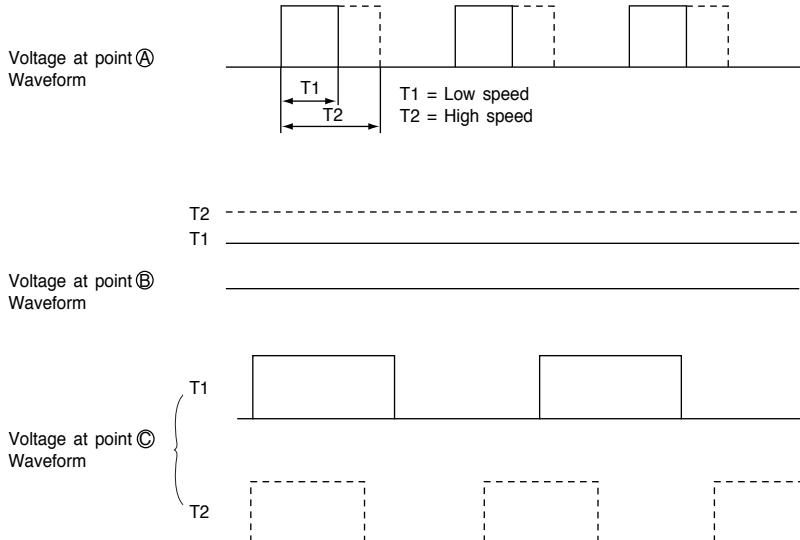

Fig. 7-2
- For the point (A), 15.7 kHz PWM pulse will be output from the pin ②4 on the micro computer as shown in Fig. 7-2. The pulse range will vary with different command speed.